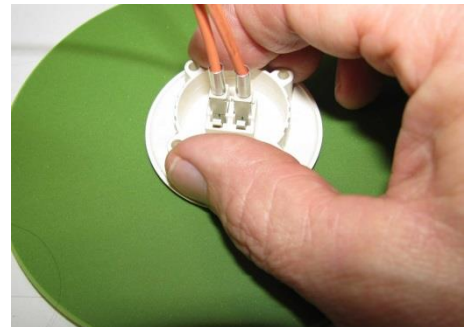

Figure 19
- 5.4. Put both connectors into the polishing disc. Place the polishing disc planar on the foil (figure 19).